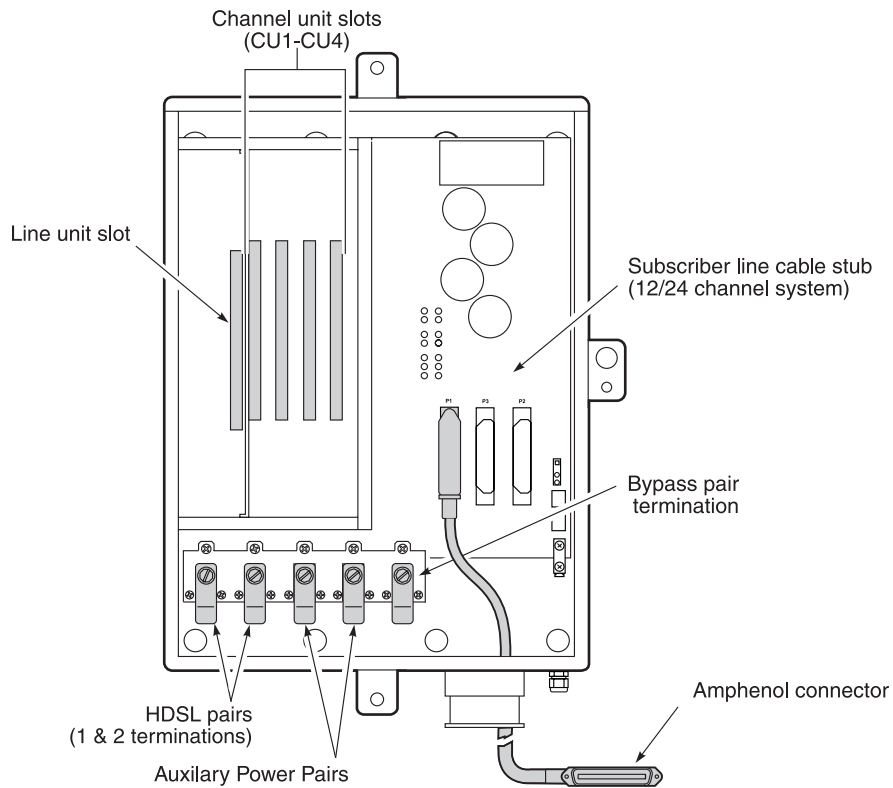

Figure 6. FRE-765 List 4G RT Enclosure (Interior View)
- List 4G—see Figure 6 on page 4